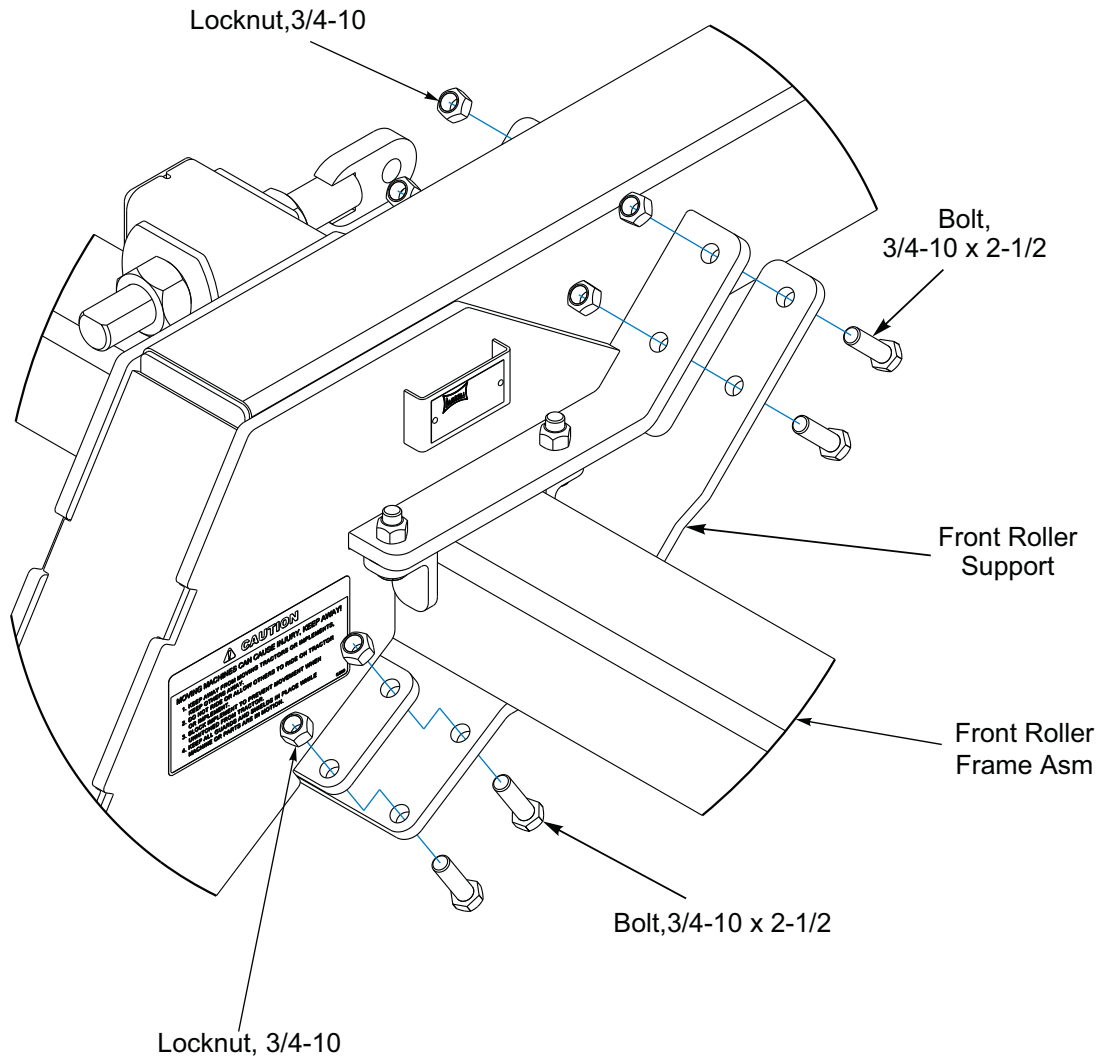

Figure 2-1: Front Roller Support
4. On the inside frame, position the Front Roller Support Plate under the Front Roller Frame Tube and secure with eight 3/4-10 x 2-1/2 Bolts and Locknuts. **See Figure 2-1.**